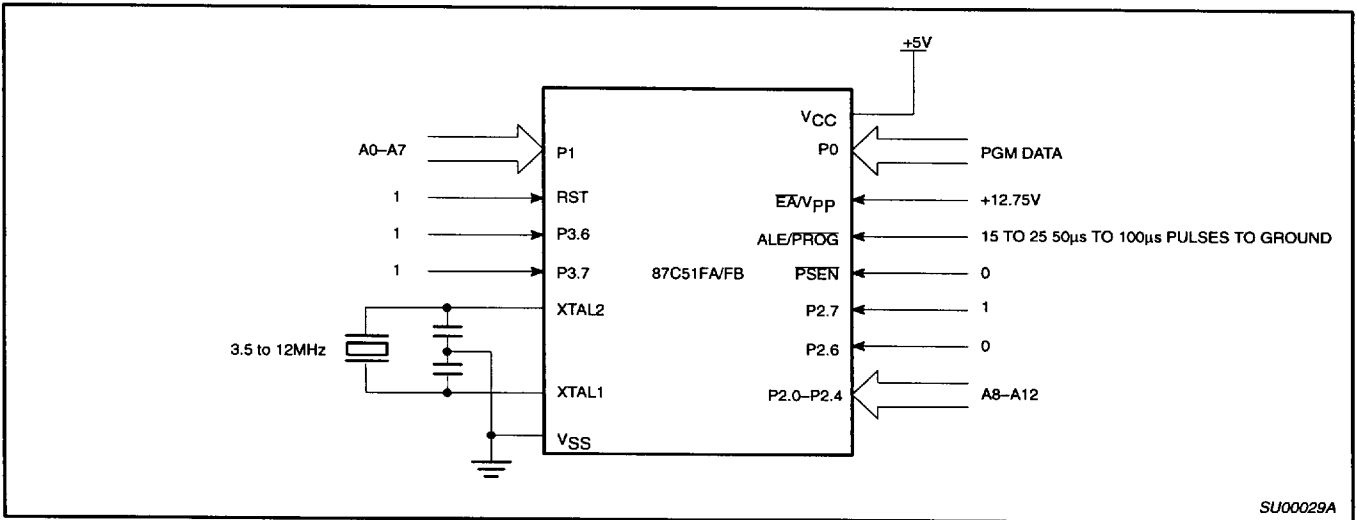
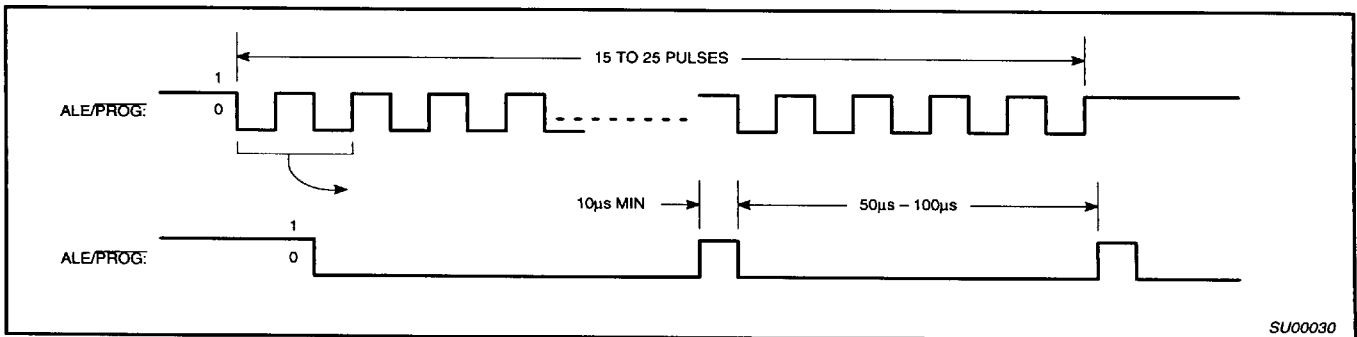
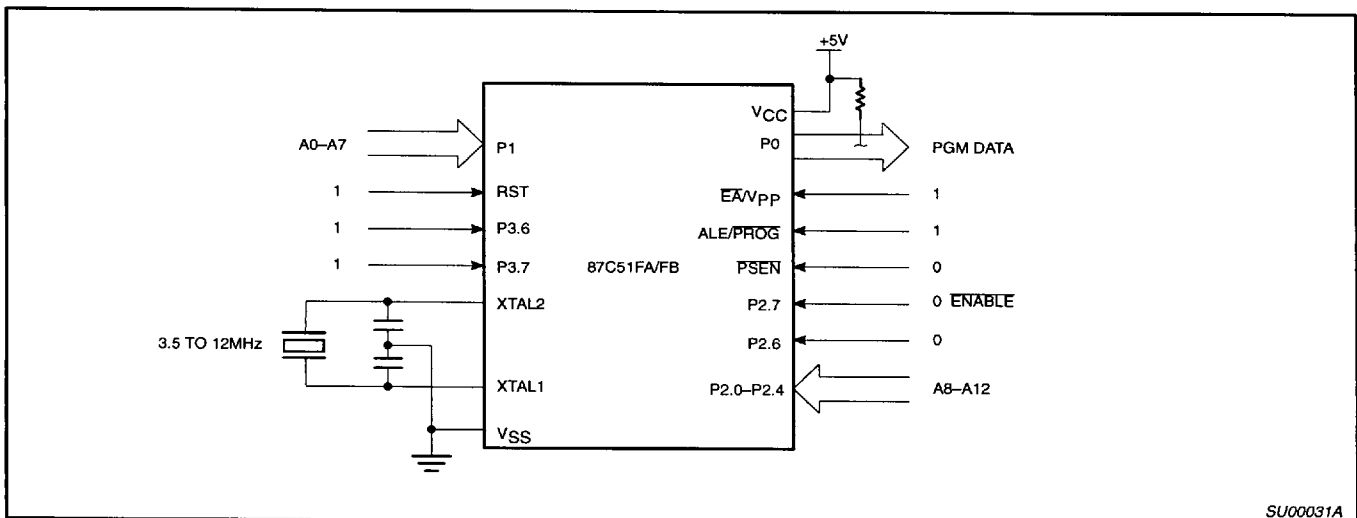

Figure 28. Programming Configuration
Figure 29. PROG Waveform
Figure 30. Program Verification
Table 3 shows the logic levels for reading the signature byte, and for programming the program memory, the encryption table, and the security bits. The circuit configuration and waveforms for quick-pulse programming are shown in Figures 28 and 29. Figure 30 shows the circuit configuration for normal program memory verification.
The setup for microcontroller quick-pulse programming is shown in Figure 28. Note that the 87C51FA/FB is running with a 3.5MHz to 12MHz oscillator. The reason the oscillator needs to be running is that the device is executing internal address and program data transfers.
The address of the EPROM location to be programmed is applied to ports 1 and 2, as shown in Figure 28. The code byte to be programmed into that location is applied to port 0. RST, PSEN and pins of ports 2 and 3 specified in Table 3 are held at the 'Program Code Data' levels indicated in Table 3. The ALE/PROG is pulsed low 15 to 25 times as shown in Figure 29.
If security bit 2 has not been programmed, the on-chip program memory can be read out for program verification. The address of the program memory locations to be read is applied to ports 1 and 2 as shown in Figure 30. The other pins are held at the 'Verify Code Data' levels indicated in Table 3. The contents of the address location will be emitted on port 0. External pull-ups are required on port 0 for this operation.
* FOR PROGRAMMING VERIFICATION SEE FIGURE 28.
FOR VERIFICATION CONDITIONS SEE FIGURE 30.